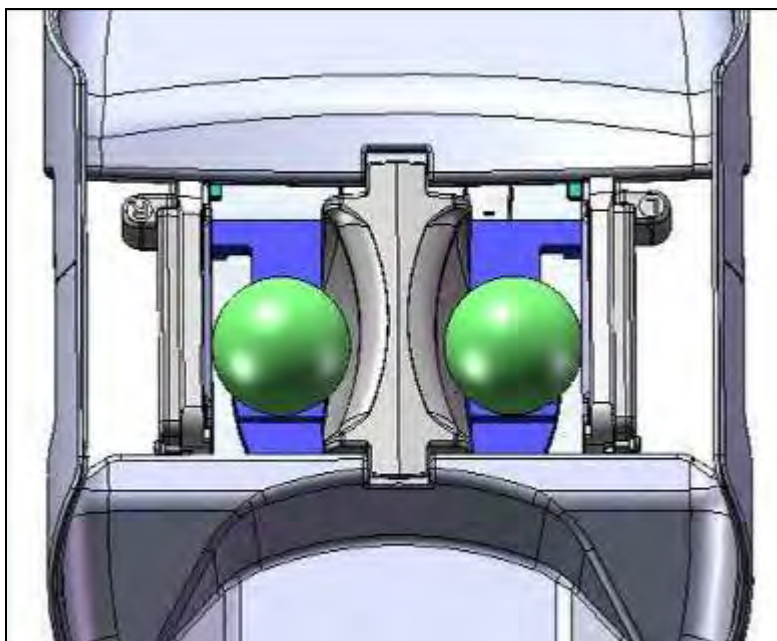

Figure 65: 10 Channel - Phantom Set-Up
4. Add spherical GE phantoms and move the lateral coils to their lowest possible position. Adjust lateral coils towards the phantom so that they lightly touch the phantoms as shown in Figure 65.